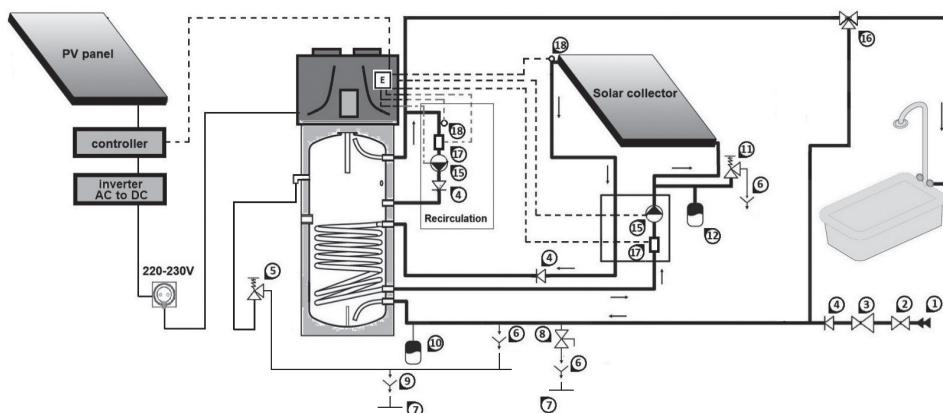
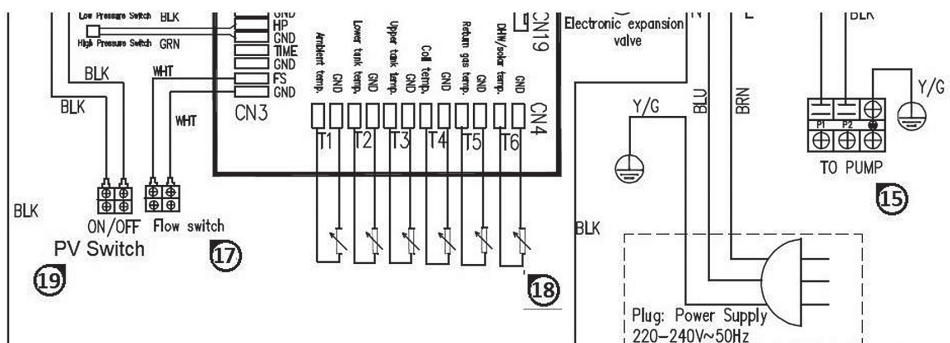

Fig 14 - Example of connection to the water supply and solar thermal panels (model with heat exchanger)
Fig 15 - Wiring of external devices
The product can be connected to other remote energy systems (solar panels and solar thermal power). See Fig 14.
- Then connect the external circulation pump I max = 5A (No. 15 in Fig 14), as well as the solar thermosensor (No. 18 in Fig 14) and the flow switch (No. 17 in Fig 14) (optional). If the flow switch is not present, short-circuit contact FS 17 (Fig. 15).
Only qualified personnel should design and install solar thermal systems including all the elements indicated in Fig 14.
Once the product detects that the voltage of the solar PV energy is high enough to support its operation, the heat pump or the electrical resistance will make the water set temperature higher for higher hot water availability. PV switch No. 19 (Fig 15) must be connected to the PV system.